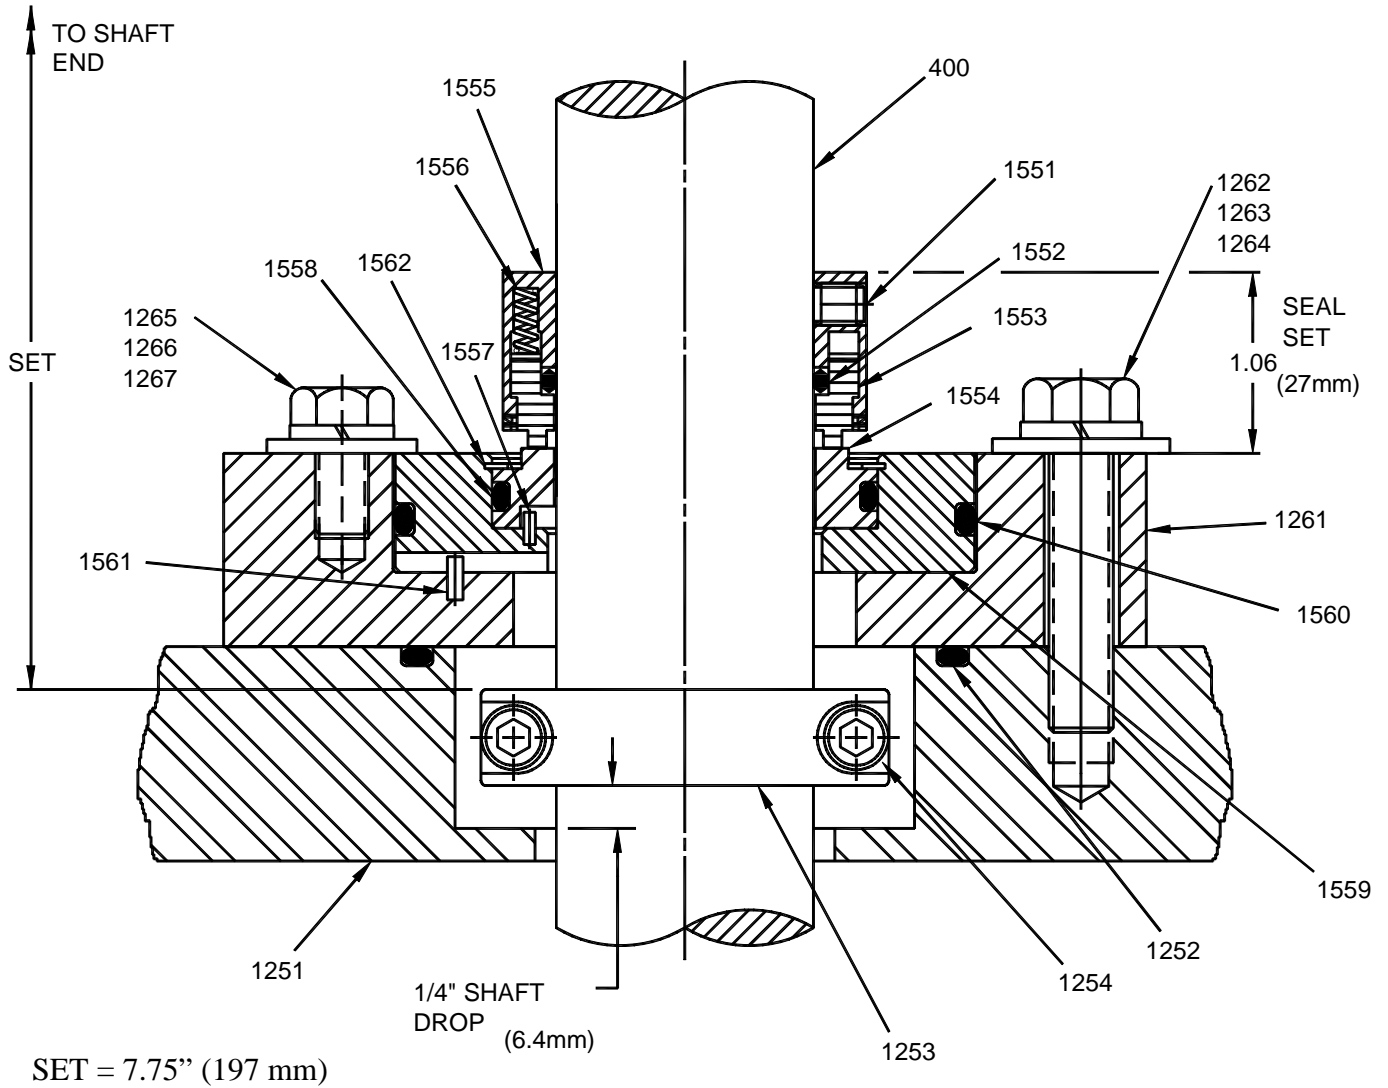

Figure 5: Model 40DTNS Seal, Crane 8B2
9. Set rotary seal ring **[1555]** retainer at 1.06" (26.9mm) above the adapter plate face per *Figure 5, page 13*. Evenly tighten all cup point setscrews **[1551]**.